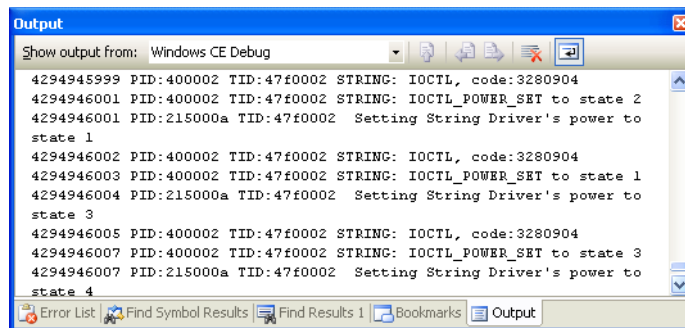

Figure 6-13 Power management-related debug messages from the string driver
6. Run the application again, and observe the power state-related debug messages when Power Manager changes the string driver's power state, as shown in Figure 6-13.